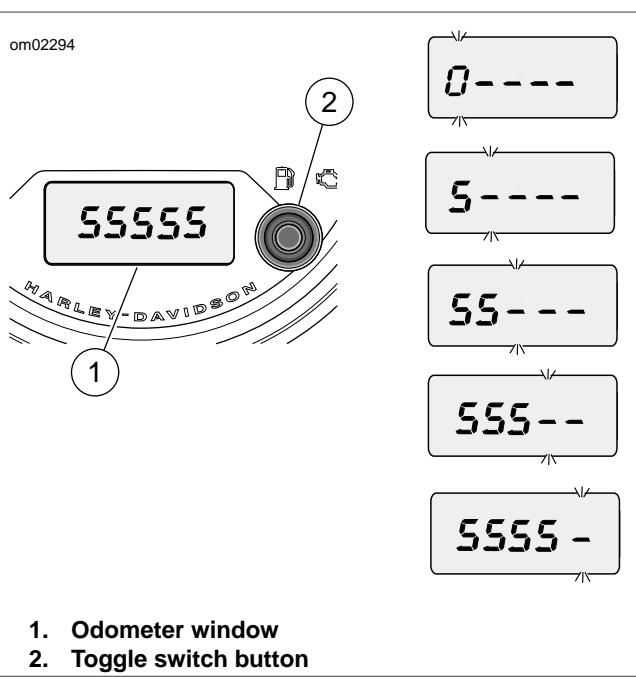

Figure 8. Inputting the PIN (Sample PIN Shown)
1. See Figure 8. While the security indicator lamp is flashing, turn the ignition switch to IGNITION. The odometer window displays ENTER PIN.
- a. See Figure 8. Cycle the ignition switch twice: IGNITION-OFF-IGNITION-OFF-IGNITION.